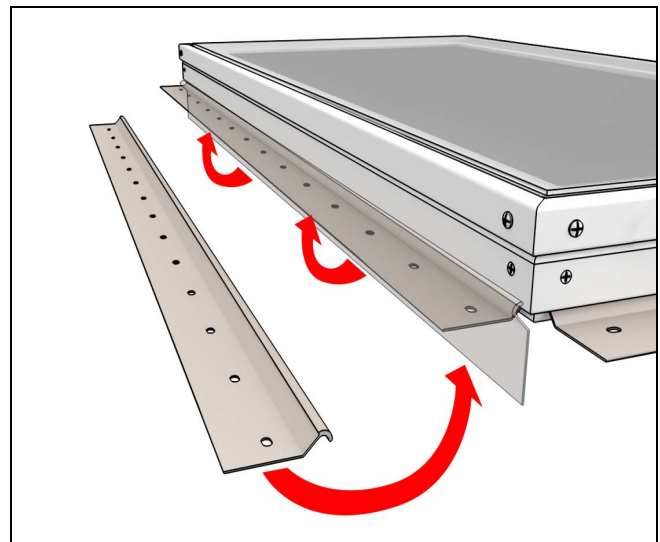

Figure 8
6. Install mounting flanges. Install on ground, may need to use force to insert in kerf. Corners of flange are sharp, use caution when installing. See Figure 8.